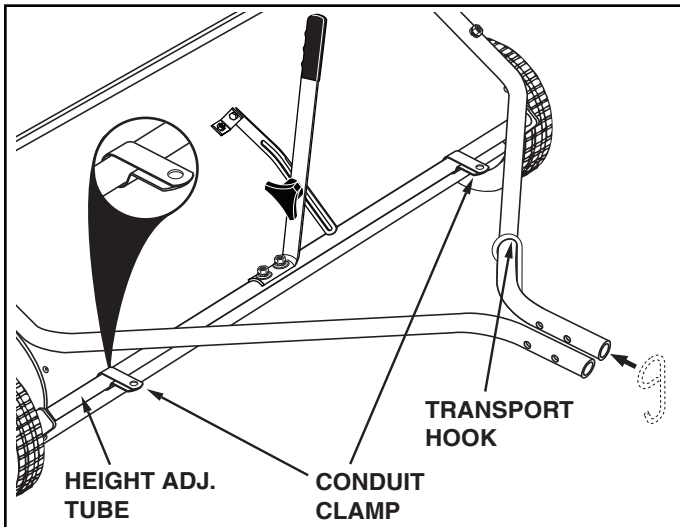

FIGURE 3
- Remove the hitch brackets from the sweeper's hitch tubes. Slide the transport hook onto the L.H. hitch tube as shown in figure 3.